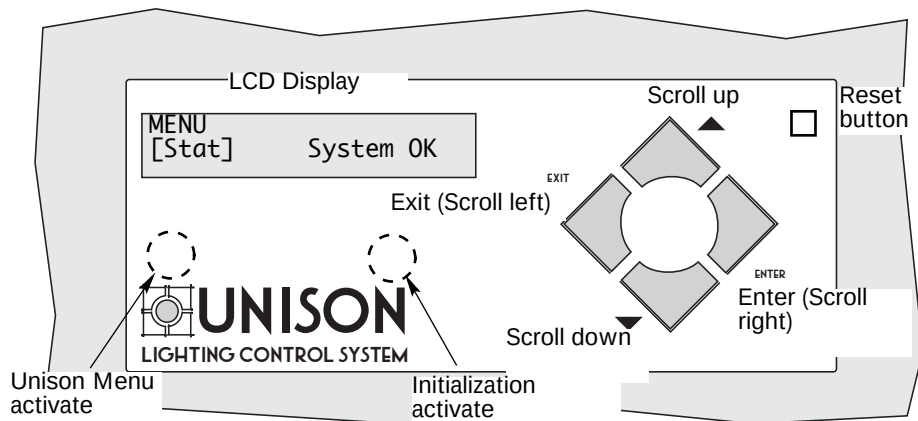

Figure 68: Control module interface for the Dimmer Menu
1. Press the concealed menu activate button for three seconds. Menu screen will appear. See *Figure 68* for concealed button.